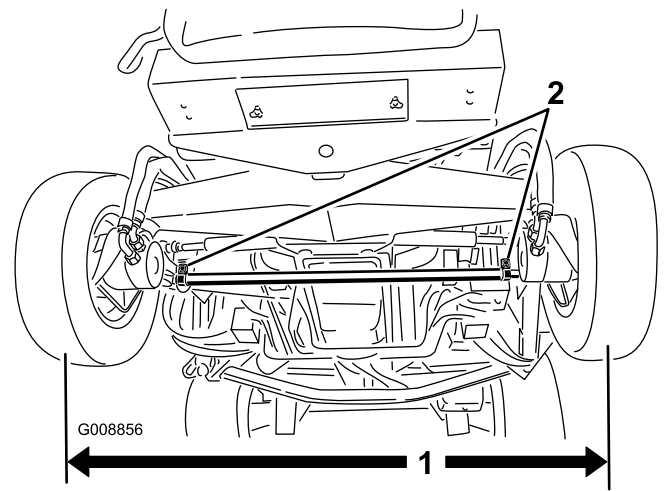

Figure 77
1. Measure the center-to-center distance (at axle height) at the front and rear of the steering tires (Figure 77). The front measurement must be no greater than 0.00-0.12 inch less than the rear measurement.